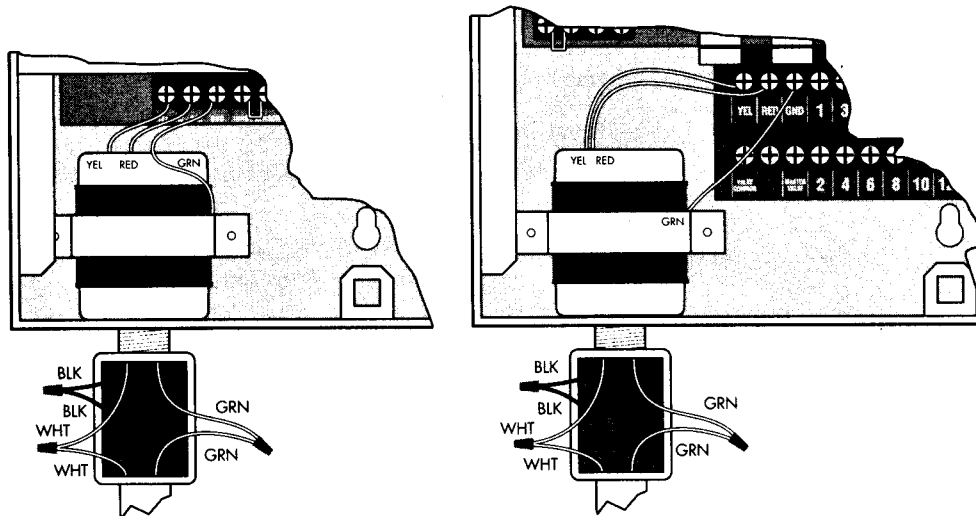

Figure 1. Electrical Hook-ups
2. Verify that the yellow and red wires of the transformer are connected to the 24 VAC input on the terminals of the controller (see fig. 1). Connect the black and white wires of the 120 VAC, 60 Hz power supply to the black and white wires of the transformer (see fig. 1).
2. Following the wiring diagram in figure 1, insert straight bare wire between the plates of the “sure grip” terminal. Connect one solenoid wire to the station terminal and the other to common. Tighten screw firmly.